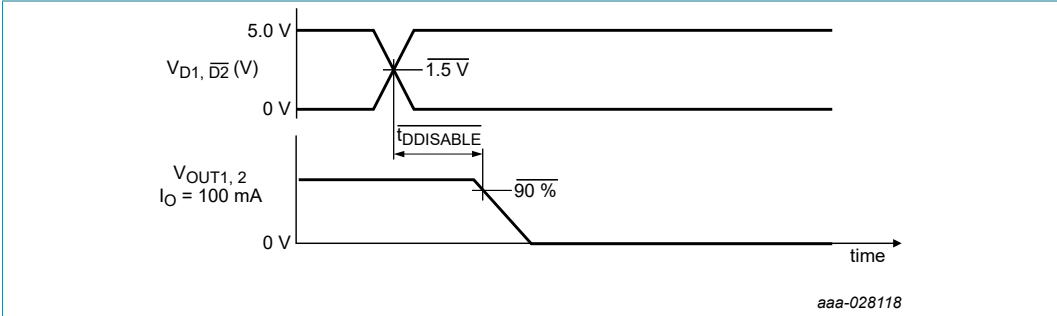

Figure 6. Disable delay time
- [6] Disable delay time measurement is defined in Figure 6.